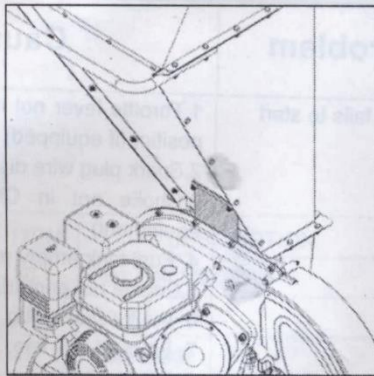

Figure 4-3
2. Remove the two flange nuts (and hex bolts) which secure the hopper support bracket to the impeller housing. Retain the hardware. See Figure 4-3.